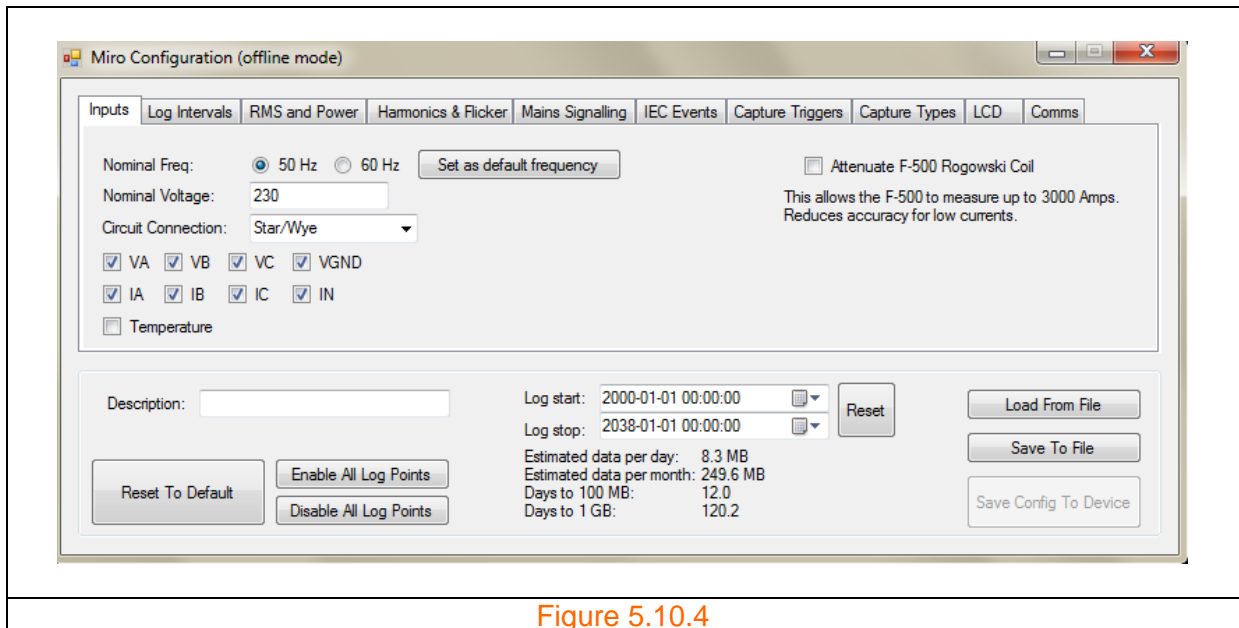

Figure 5.10.4
Step 3: Click on the 'Offline Configuration' button. The configuration form shown in figure 5.10.4 appears.